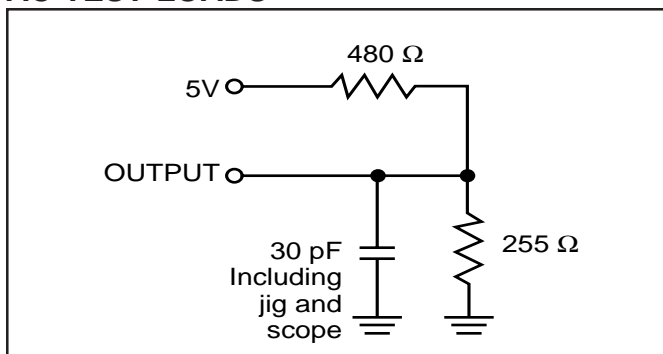

Figure 1
1. Test conditions assume signal transition times of 5 ns or less, timing reference levels of 1.5V, input pulse levels of 0 to 3.0V and output loading specified in Figure 1.
Output Load	See Figures 1 and 2
1. Test conditions assume signal transition times of 3 ns or less, timing reference levels of 1.5V, input pulse levels of 0 to 3.0V and output loading specified in Figure 1.